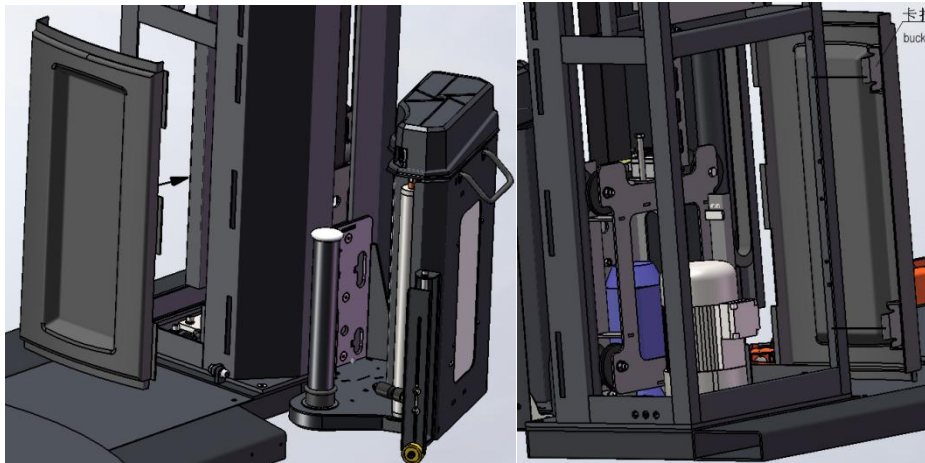

Figure. 4.21 Installation of right door panel
(1) Right side door panel installation. There are 3 door panels on the right side, which are installed from bottom to top. The three convex edges on the side of the door panel are inserted into the three clamping grooves of the column, and the other side of the door panel is inserted into the vertical plate of the column. The specific installation is shown in Figure 4.21 and 4.22.